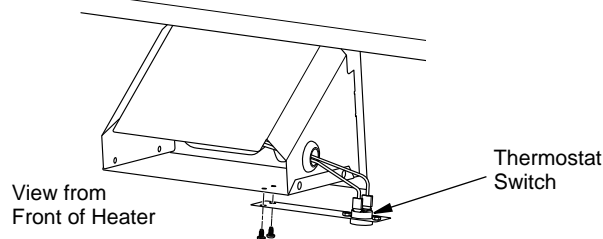

Figure 3
3. Attach thermostat switch to top of fan/blower using 2 screws (see Figure 3). Replace front panel assembly